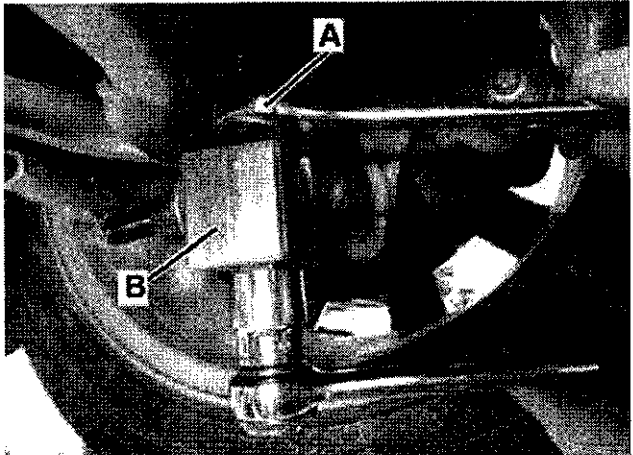
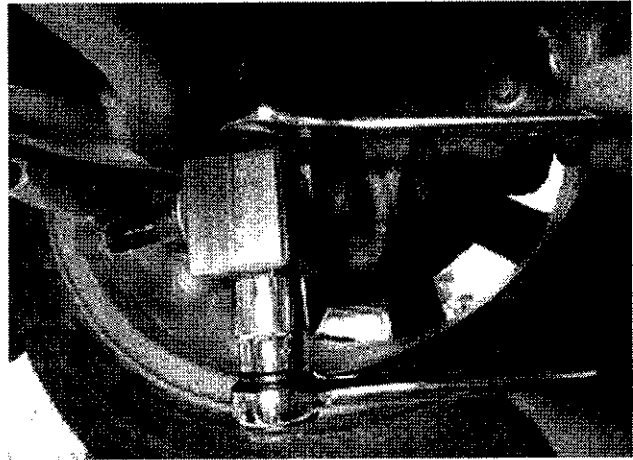

Figure 5
Figure 7
- Counter hold ABC strut with open wrench (A, Figure 5) at hexagon and remove ball joint with tool (B) provided in campaign parts kit.
- Install new ball joint using tool (B, Figure 5) provided in campaign parts kit. Torque ball joint to 80 Nm (Figure 7).
- Turn ABC strut at lower hexagon with open end wrench (A, Figure 5) so that threaded pin (A, Figure 8) of ball joint points in direction of bore (B) in lower control arm.